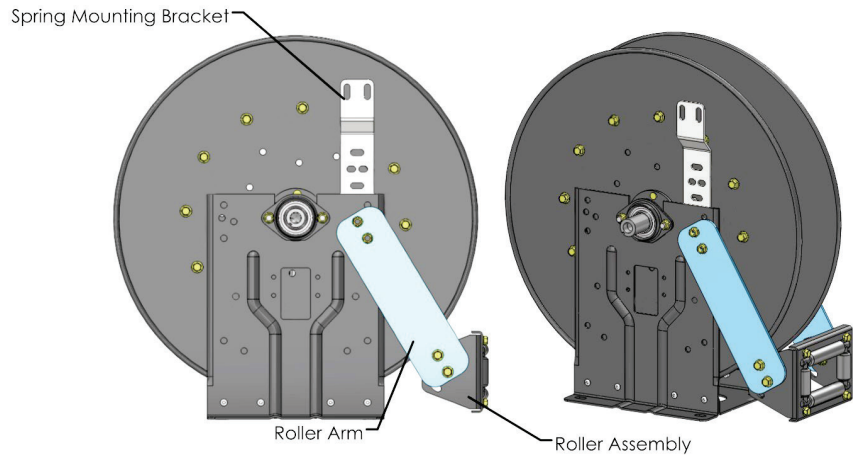

Figure 5 - Reel with Rollers in the “SR” Position
1. Remove spring per Hannay TSB 2013.06.003 Changing a Hannay Spring Motor, this can be found at [www.hannay.com](http://www.hannay.com). The reel should look like Figure 5.